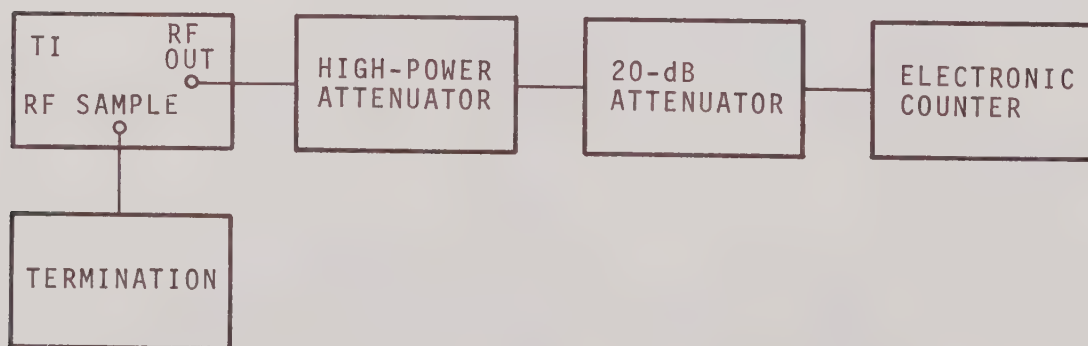

FIGURE 6-2. FREQUENCY TEST CONFIGURATION
a. Connect the applicable equipment as shown in Figure 6-2.